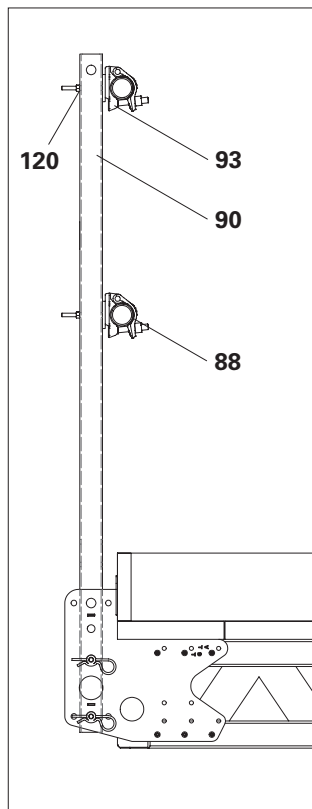

Fig. B5.06a
3. Insert the steel scaffolding tubes (**88**) and screw them tight. (Fig. B5.06a)